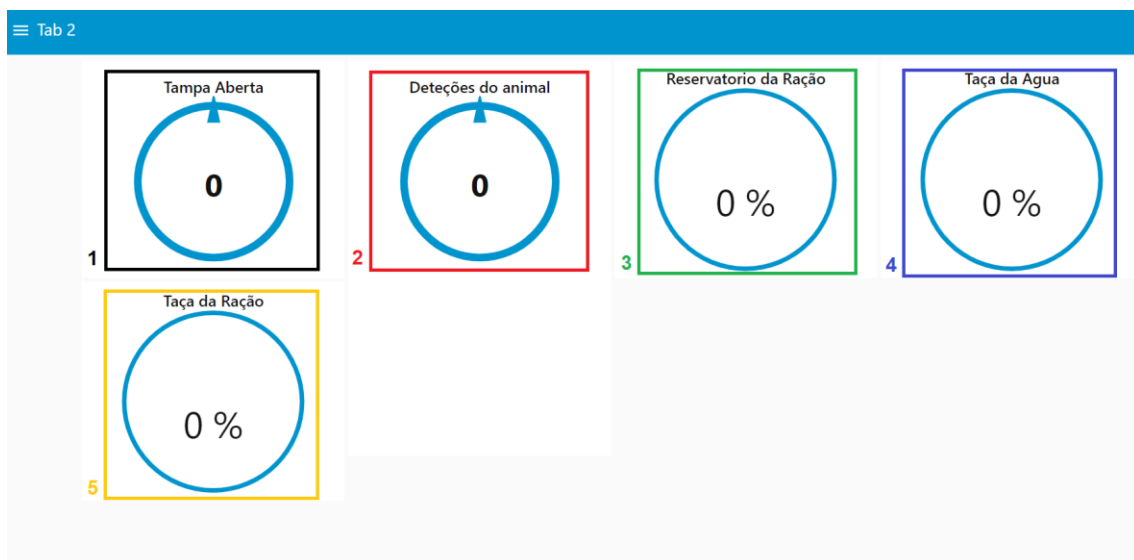

Figure 20 Dashboard description
In the **Dashboard** the user can check if the deposit cover is open (1), the pet's presence (2), the deposit level (3), water bowl level (4) and the food bowl level (5), Fig.20.